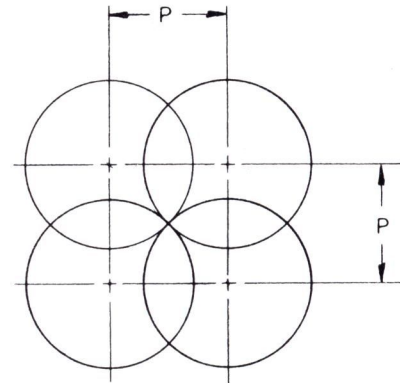

Fig. 1
select the size motor and head from among Stow's 3 different size motors, use Table 1. It contains information compiled through tests on these vibrators. When vibrating, use a pattern of immersion as shown in Fig. 1 (a 50% radial overlap) to insure complete coverage.
The concrete is normally placed in the forms in layers about 12 to 18 inches thick in a manner which forms a fairly level surface. The vibrator head is inserted vertically into the top of the pile. Inserting the head into the side of the pile to make the concrete flow is bad practice, actually causing segregation of the aggregate from the mortar. When the surface has become fairly level, then the head should be immersed and generally moved in the pattern shown in Fig. 1 (check Table 1 for "P"). Immerse it for 5 to 10 seconds (until air stops rising) and then withdraw it slowly to let the concrete fill the void left by the head. The head should be completely below the surface when vibrating, to keep the head cool. When vibrating a thin horizontal slab, the head can be used in a horizontal position.
- 2 Compaction Capacity is based on 50% radial overlap (see Fig. 1).
- 3 To insure complete coverage follow head placement pattern shown in Fig. 1.